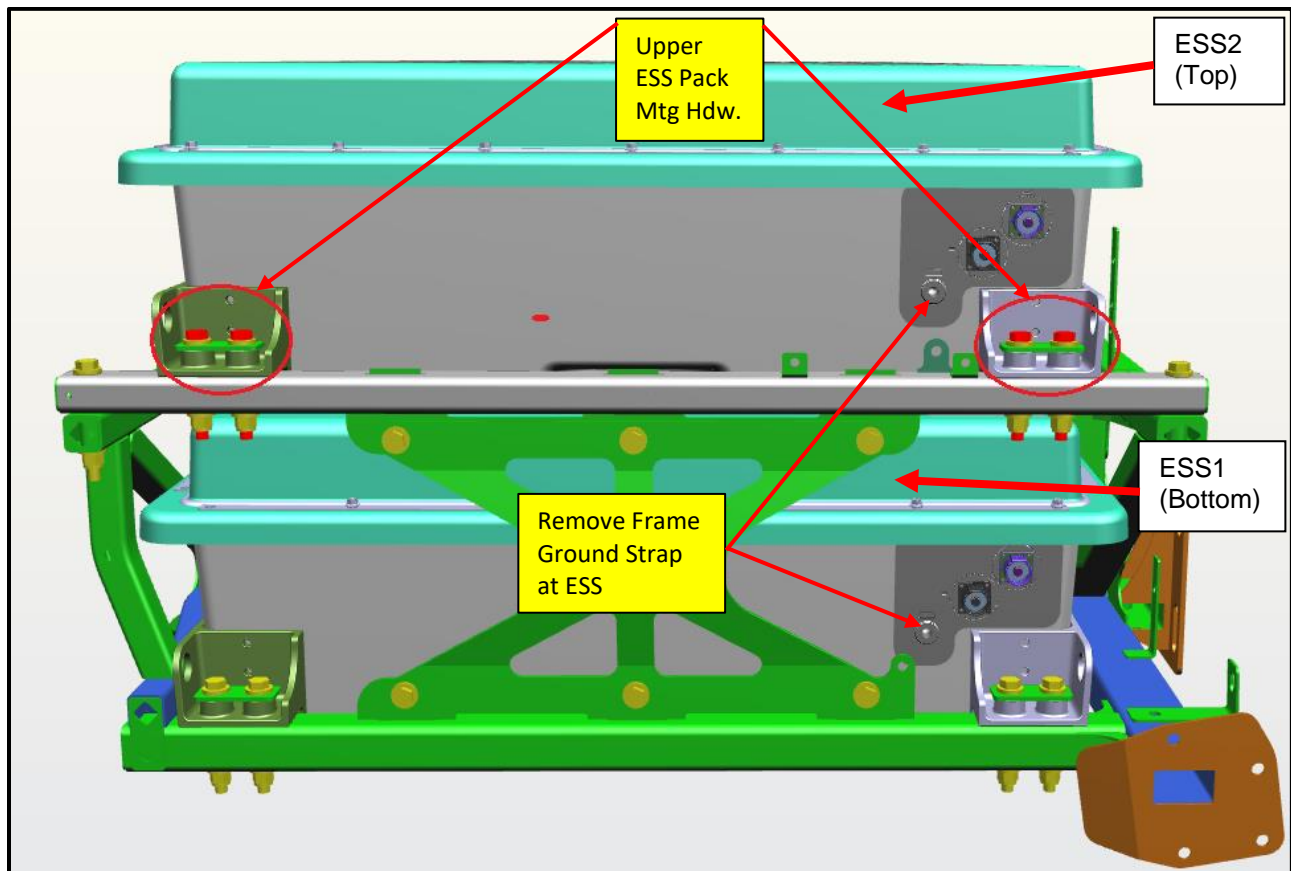

Figure 23: Upper ESS Frame Mounting Hardware Location Reference.
66. Remove fasteners securing the upper ESS packs to the frame (four fasteners on each side). Set hardware aside for re-installation. See Figure 23.
67. Remove ground strap from ESS pack at ESS frame 2X locations and set hardware aside for re-installation. See Figure 23